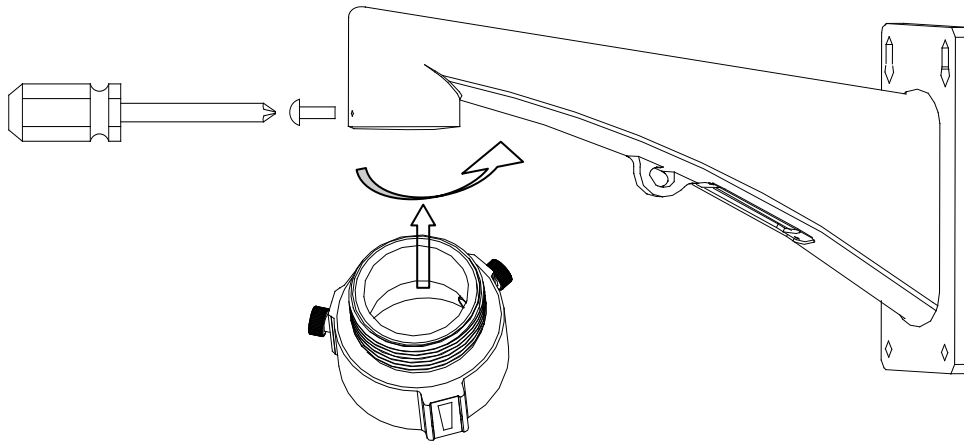

Figure 1.2.2 Install the fast mounting adapter
- (2) Wrap the thread compound to the thread of fast mounting adapter and screw the thread into the wall mount. Then, wedge the set screw to the wall mount as shown in figure 1.2.2.